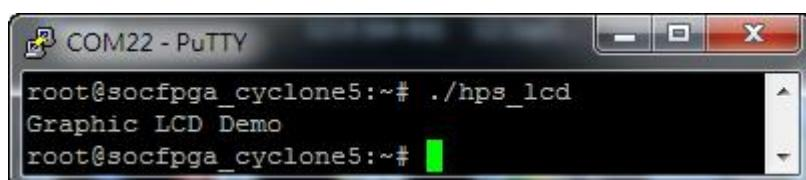

Figure 6-13 Launch LCD Demonstration
- In the UART terminal of PuTTY, type "**./hps\_lcd**" to start the LCD demo, as shown in **Figure 6-13**.